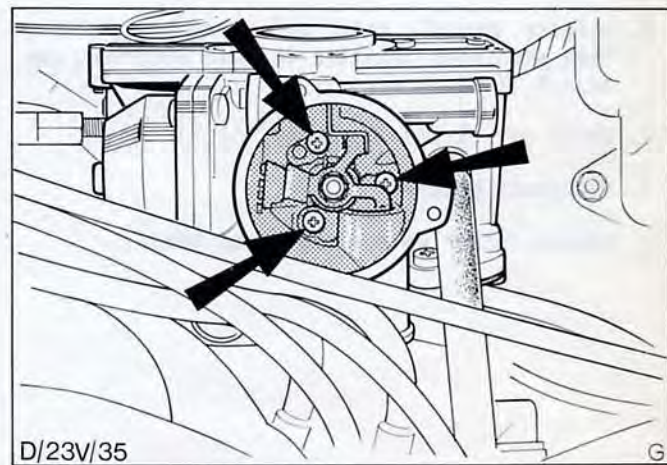

Fig.76. Choke assembly securing screws.
5. Remove a further three screws and detach choke assembly, Fig.76.